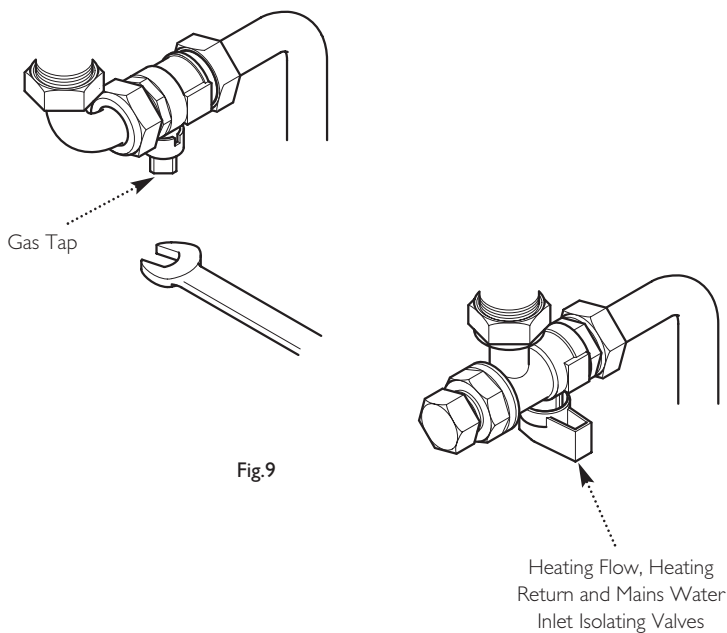

Fig.9
1. Using a suitable open ended spanner, turn the square nut on the gas tap through 90° ($\frac{1}{4}$ turn) to isolate the gas supply at the boiler (Fig. 9).
2. The water isolating valves are positioned under the boiler and can be closed by turning their taps to the right towards the wall (Fig. 9).